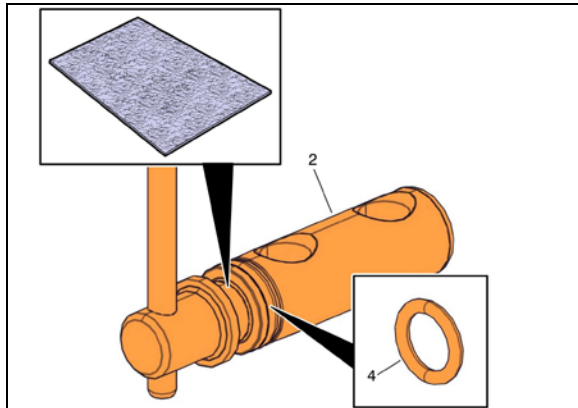

FIGURE 8: INSPECT THE O-RING (4) IN THE SPINDLE (2)
8. Gently scrape by hand and remove any loose debris or corrosion from the spindle and coolant filter housing using an abrasive cleaning pad (Figure 8).